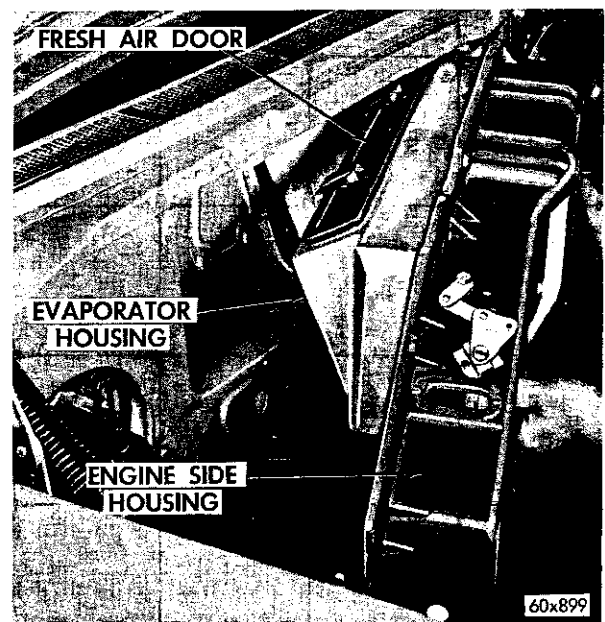

Fig. 49—Evaporator Installation (Typical)
The evaporator assembly includes the evaporator core, the cast evaporator housing with fresh-air and recirculating doors, and the evaporator engine-side housing with the heater by-pass door. These sub-assemblies are built up before installation on the car to form a complete unitized evaporator assembly. The unitized evaporator assembly must be removed and installed as a complete assembly. (Refer to Fig. 49.)
(1) Close the fresh-air door and install the evaporator assembly as shown in Figure 49. Make sure the rear edge of the rain shield is folded upward.
(2) Install all evaporator assembly attaching screws, and tighten lightly. After all screws are installed, tighten alternately until all are tight. Alternate tightening of the screws will prevent distortion or damage to the assembly.
(3) Install the heater core and cover. Install the temperature control valve sensing bulb in the engine-side housing. Connect the heater hoses.
(4) Reconnect the by-pass door and recirculating